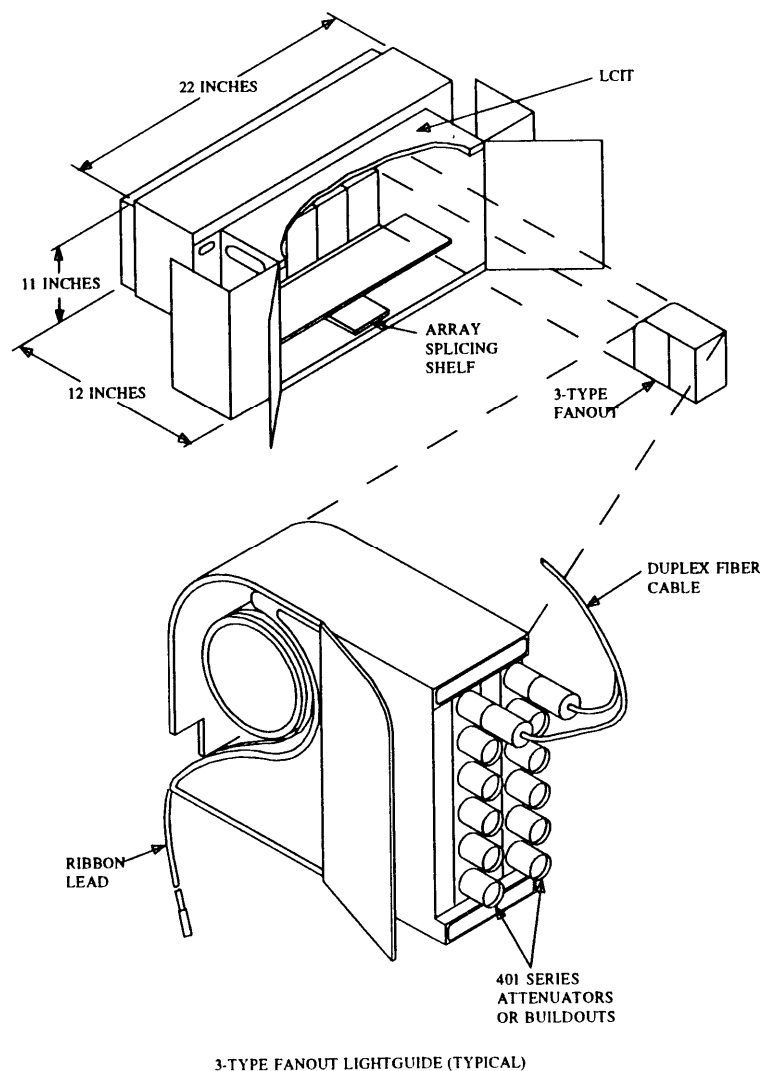
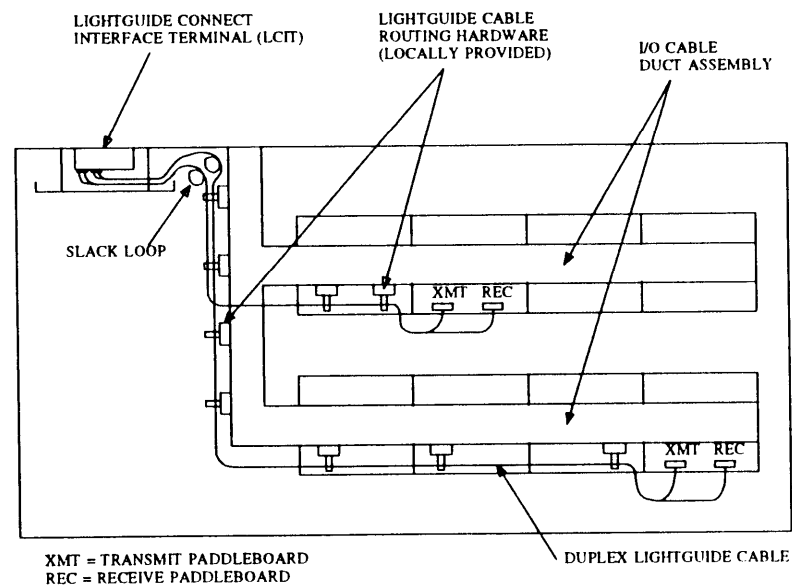

Figure 12-47. LCIT With 3-Type Fanout
Figure 12-48. Routing of Lightguide Cables to LCIT
Six types of duplex cable may be used for the lightguide connections. In R2V1-V4, Group 461 (LL2A-B) or Group 463 (LB2A-B) for RMI, and Group 460 (LL2A-B) or Group 462 (LB2A-B) for TMS. In DEFINITY Generic 2, Group 504 and 505 are used both for RMI and TMS connections. These cables are fragile and should be routed from the appropriate carrier to the LCIT (figure 12-47) outside the overhead duct work. Figure 12-48 illustrates how the fiber cables should be routed.
3. Route the cable out of the module control cabinet to the central LCIT outside the overhead ducts using the locally provided hardware. This cable should enter the right side of the LCIT. Figure 12-48 illustrates the routing of lightguide cables.
4. Connect the appropriate attenuator to the central LCIT (figure 12-47) in the correct position as determined by your CSD.
3. Route the cable out of the TMS/RMI cabinet to the central LCIT outside the overhead ducts using the locally provided hardware. This cable should enter the right side of the LCIT. Figure 12-48 illustrates the routing of lightguide cables.